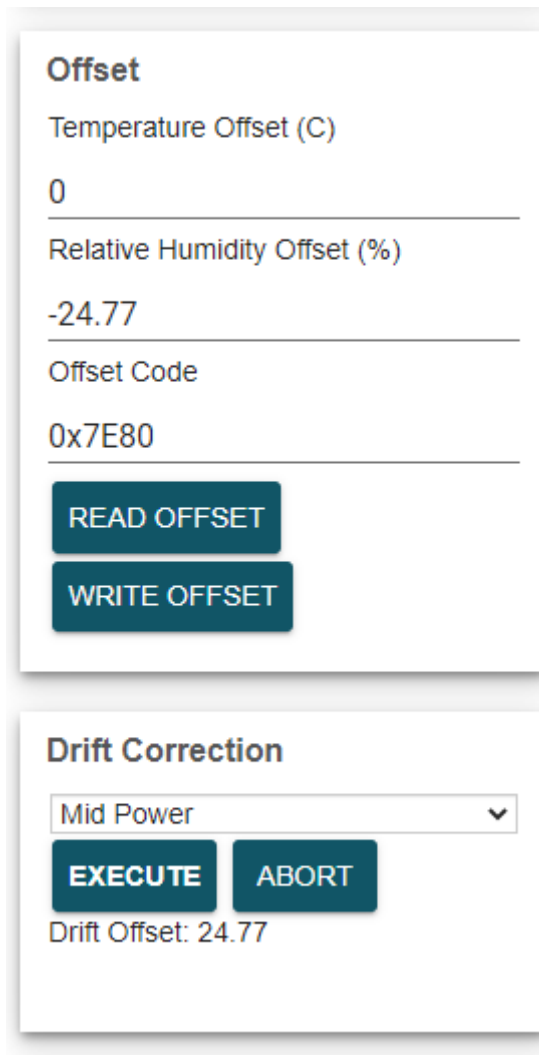

Figure 5-4. Offset Register Displaying the HDC3020 Drift Offset
- After running this algorithm, the drift offset is displayed in the offset register tab (as shown in figure 5-4). To correct the offset, select the Write Offset command and the RH value is corrected.